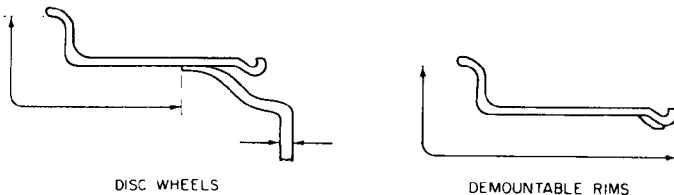

FIG. 1
4.2.2 LOCATION—Marking of wheels, demountable rims, and rings shall be visible when the tire is fitted and inflated. For disc wheels, the marking may appear on either the rim or disc. See Figs. 1 to 6 for examples of location.